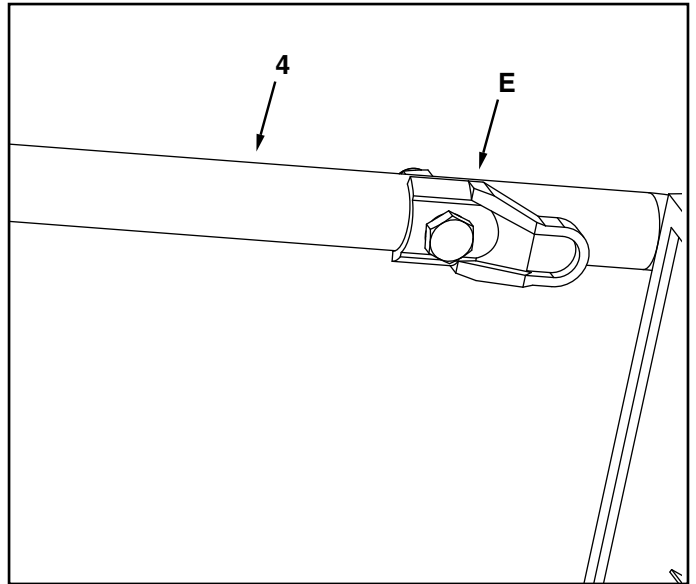

FIGURE 10
13. Hook the elastic straps on the bag flaps under the bag rod clips (E) on the lower handle tubes (4) shown in figure 10.